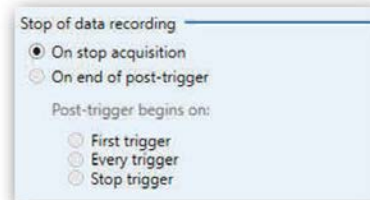

Figure 9.17: Stop of data recording
- B** In the **Stop of data recording** area, select the **On stop acquisition** checkbox (see Figure 9.17).